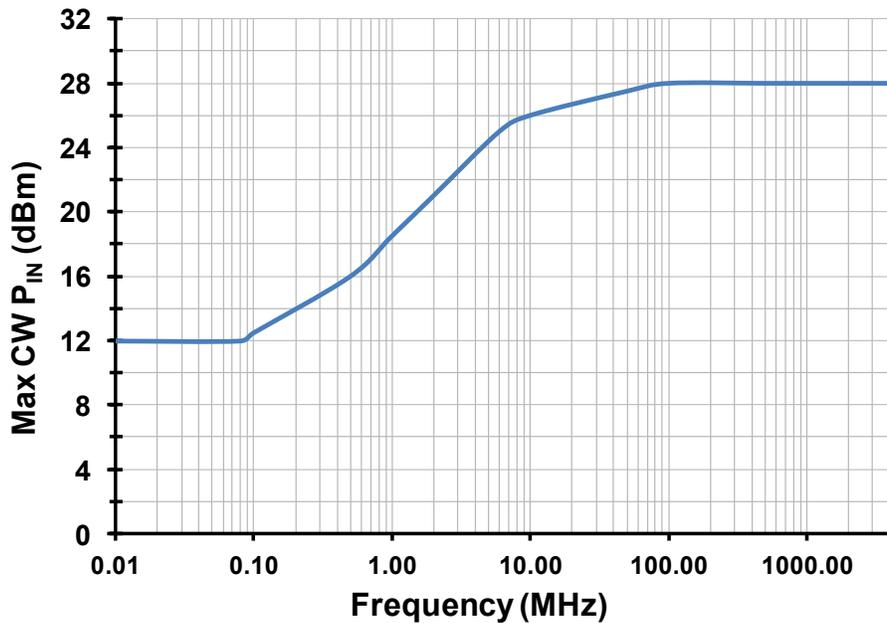

Figure 1 - Maximum Operating RF input power vs Input frequency
- Note 3: The input 0.1 dB compression point is used as a linearity figure of merit. The recommended maximum input power is specified as the lesser of the two values from RF CW Power (Figure 1) and the RF Average Power (Recommended Operating Conditions Table).
Note 3: The input 0.1 dB compression point is used as a linearity figure of merit. The recommended maximum input power is specified as the lesser of the two values from RF CW Power (Figure 1) and the RF Average Power (Recommended Operating Conditions Table)..